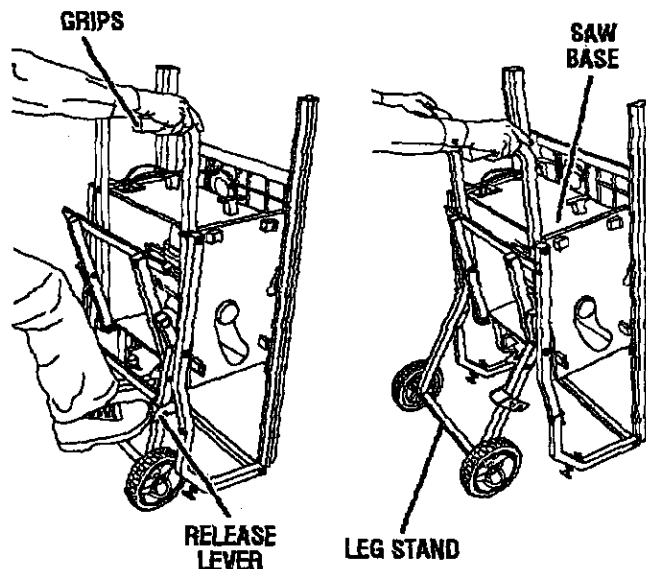

Fig. 7
See Figures 7 - 8.
- Grasp the grips on the saw table and stand it upright as shown in figure 7 below.